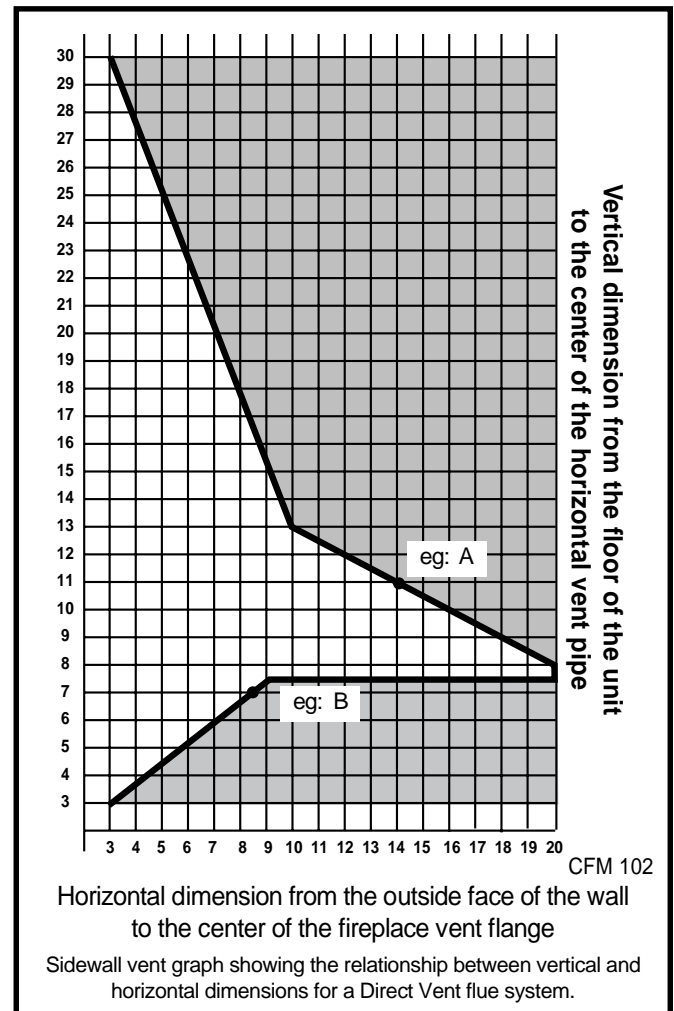

Fig. 17 Sidewall vent graph
- The vent graph (Fig. 17), showing relationship between vertical and horizontal side wall venting, will help determine allowable dimensions.
Example: According to the vent graph (Fig. 17), the maximum horizontal vent length in a system with a 7 1/2 in. vertical rise is 20 ft. (6.1 m), but if a 90° is required in the horizontal vent, it must be reduced to 17 ft. (5.2 m).